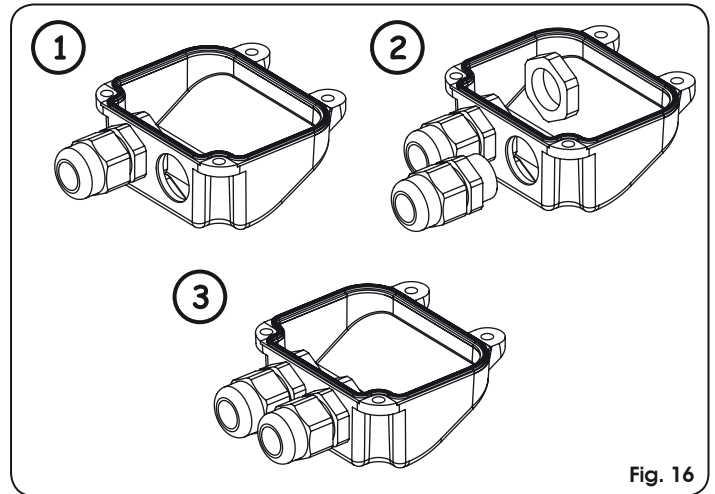

Fig. 16
1. Open the second pre-drilled hole in the cover, Fig. 16.
2. Fit the supplied cable gland, Fig. 16.